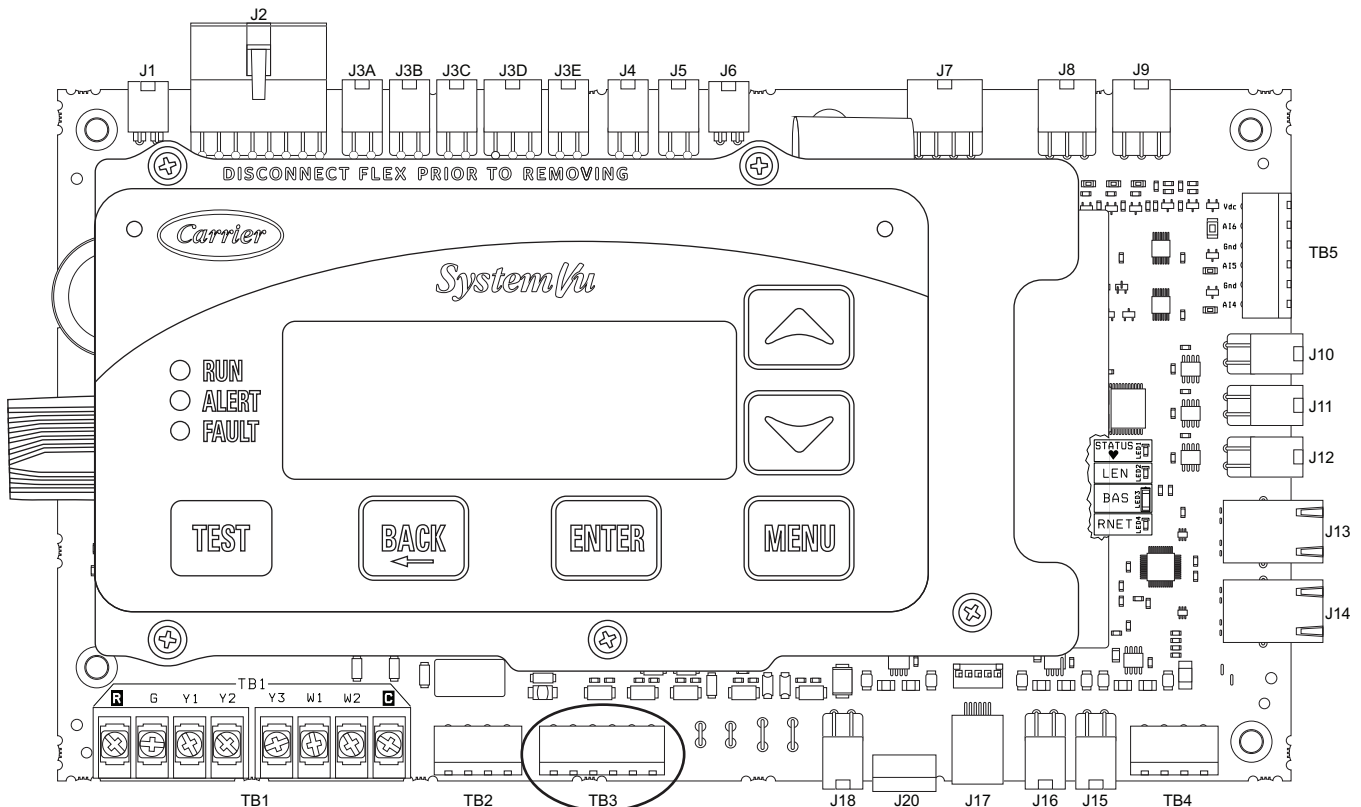

Fig. 6 — FC, GC, and JC with SystemVu Control Board
- c. Harness Assembly 3: For FC, GC, and JC units with SystemVu, connect the red and pink wires to TB3 in positions 5 and 6, respectively, and connect the female quick plug of the brown wire to TB4 male quick connector in position 6 on the unit-mounted terminal board. See the applicable terminal board diagram (see Fig. 6) and wiring diagram (see Fig. 7).